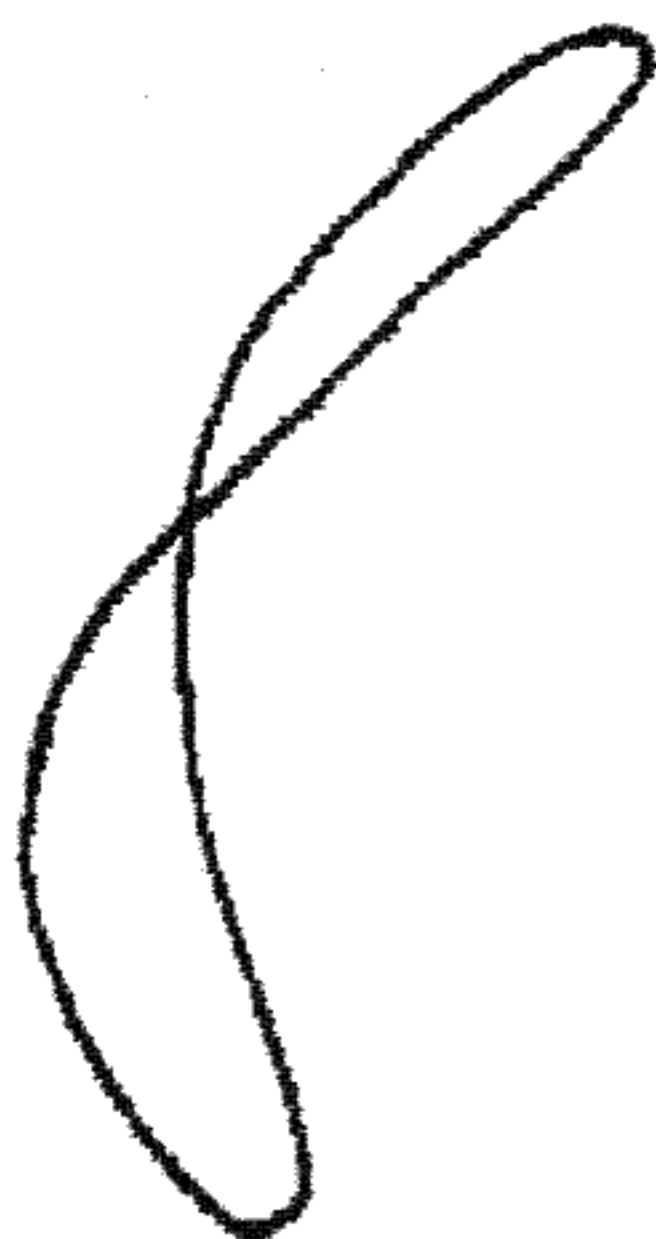
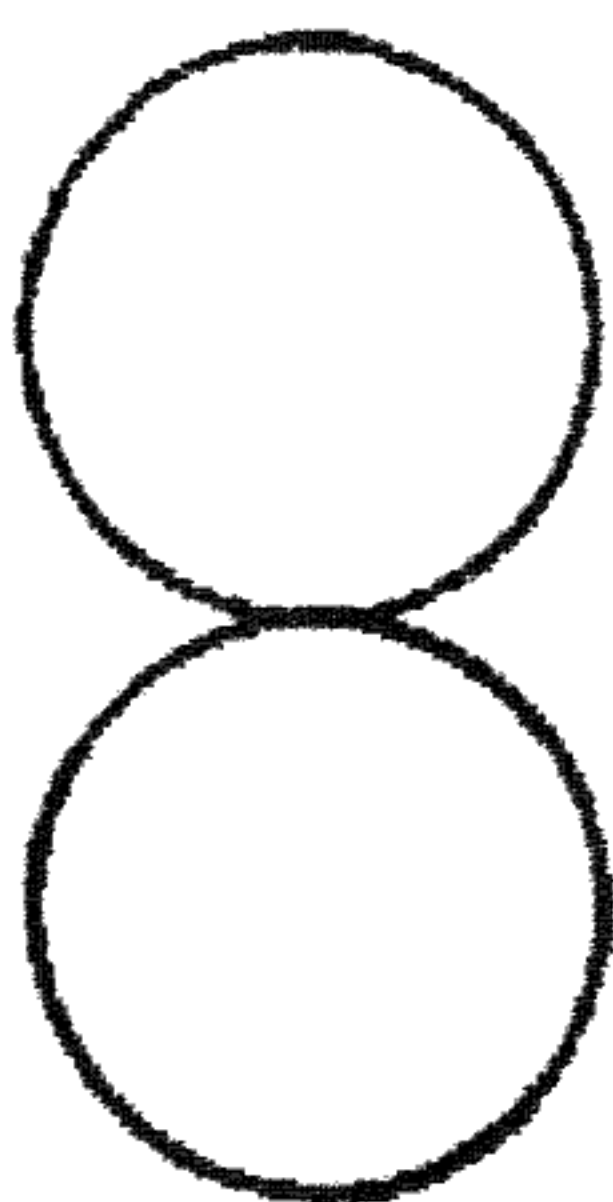

Fig. 1
Fig. 2
- 4 A figure of eight should now appear on the oscilloscope similar to Fig. 1. L23 should be adjusted carefully slightly clockwise for an exact centre crossover point as in Fig. 2.